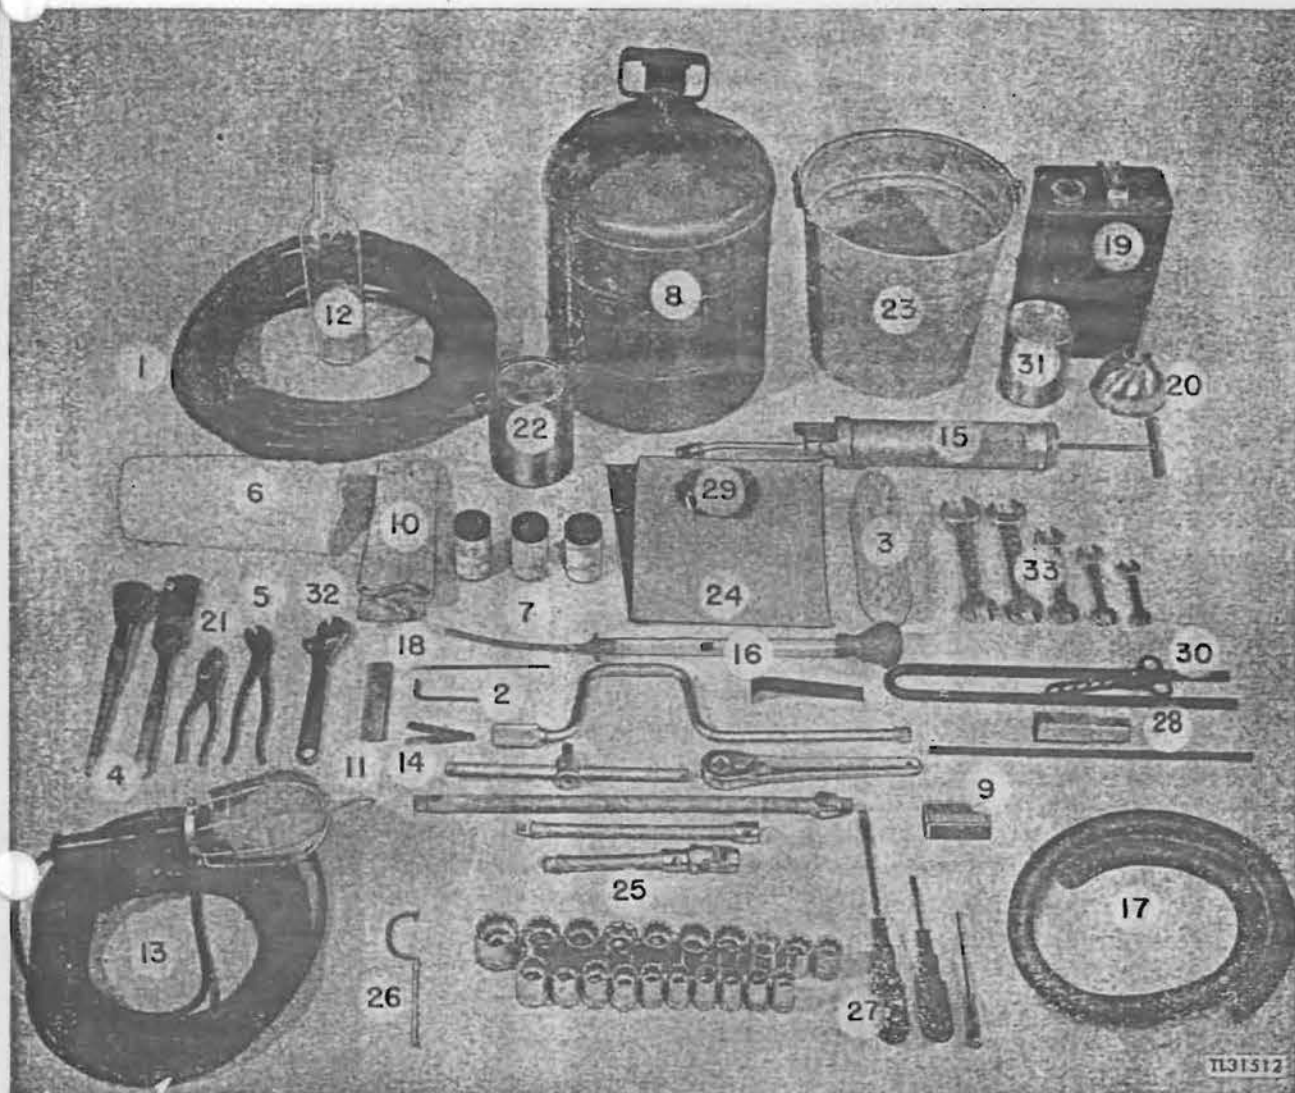

Figure 154. Le Roi engine maintenance tools.
a. TOOLS NEEDED. One-half to one hour before the official maintenance shut-down period begins, arrange on a piece of canvas near the Le Roi engine the following tools and equipment. (See fig. 154.)
- (1) Air blower (if available).
- (2) Allen wrench.
- (3) Brush, stiff cleaning.
- (4) Brush, paint, 1-inch, 1-1/2-inch, two.
- (5) Battery pliers.
- (6) Cloth, cleaning.
- (7) Cleaning agents (carbon tetrachloride, alcohol, naphtha).
- (8) Container (five-gallon size), kerosene or diesel oil.
- (9) Container for nuts, bolts, and screws.
- (10) Canvas.